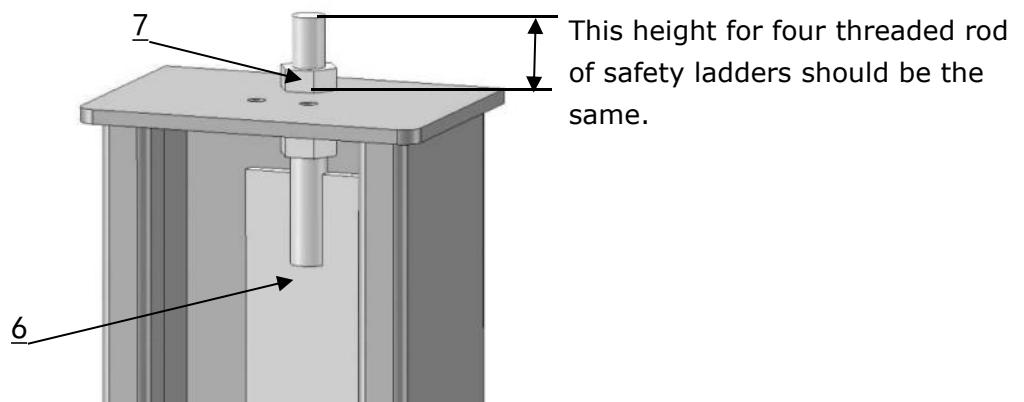

Fig.18
2. Install safety ladders (See Fig. 18).